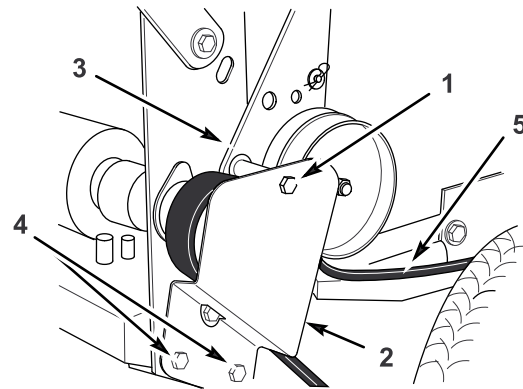

Figure 44
1. Remove the top bolt securing idler support and idler bracket to rear frame (Figure 44).
2. Loosen bottom two mounting screws enough to allow belt to pass between drive pulley and idler support (Figure 44).
5. Install the top bolt securing the idler support and idler bracket to the rear frame (Figure 44).
6. Tighten the bottom two mounting screws enough to allow the belt to pass between the drive pulley and idler support (Figure 44).